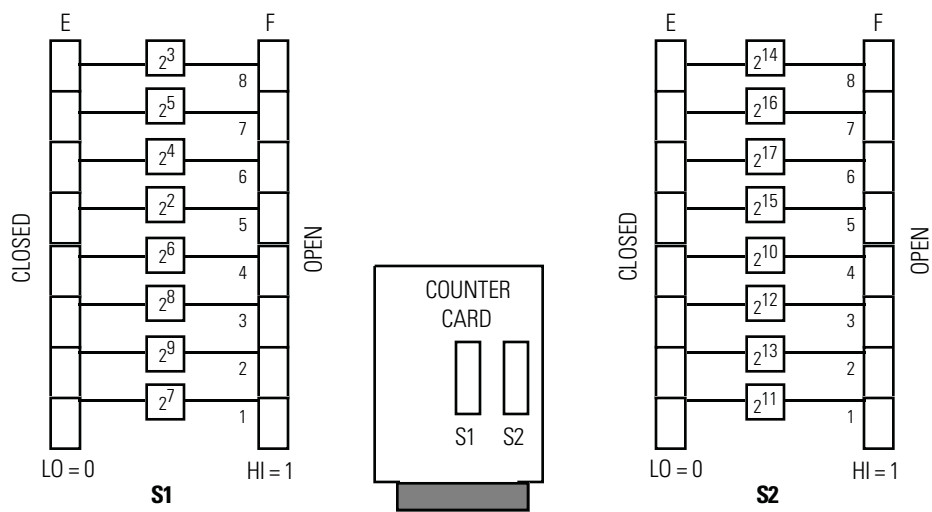

Figure 6-4
Take the following steps (Refer to Figure 6-4, next page):
4. If a PLC or readout device indicates the equivalent counts, write this value in row A of the diagram in Figure 6-4. Then convert this number to binary and write it in row B. To ensure that the count is correct, move the magnet through its stroke and observe the count change. For example, a 24 inch stroke unit with 0.001 resolution should yield a 24,000 count change.